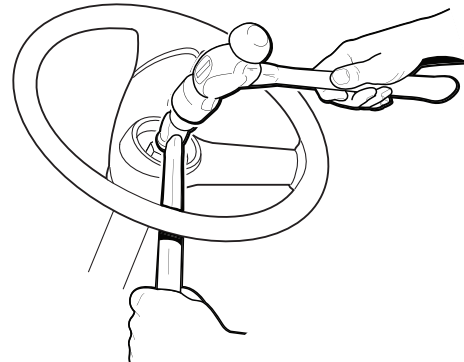

Fig. 10 Remove Steering Wheel
3. From below the steering wheel, put a plastic faced hammer against the lock nut as shown (Ref. Fig. 10).